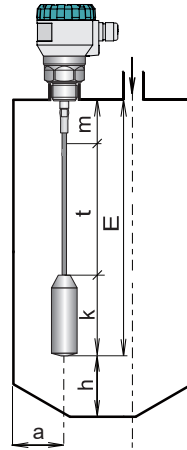

Fig. 20: Level meter installation with the rope electrode
- When calculating the length of the rope electrode, it is necessary to take into account that the measurement takes place only up to the upper edge of the weight, i.e. it is advisable to choose the electrode length so that the whole weight is below the minimum measured level, see Fig. 20. **For variants 30 and 34, it is possible to shorten the rope electrode.**